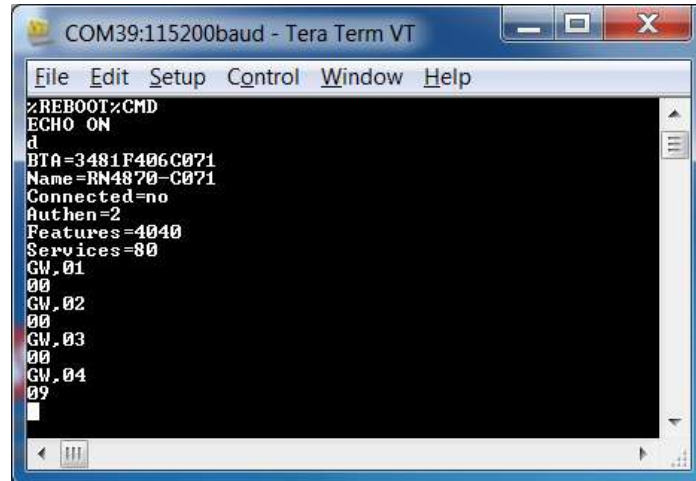

Figure 18: RN4870 Module Settings Configuration
- k. Enter the “d” display setting as show in Fig 18 below. The GW command is used to return the current IO configuration.